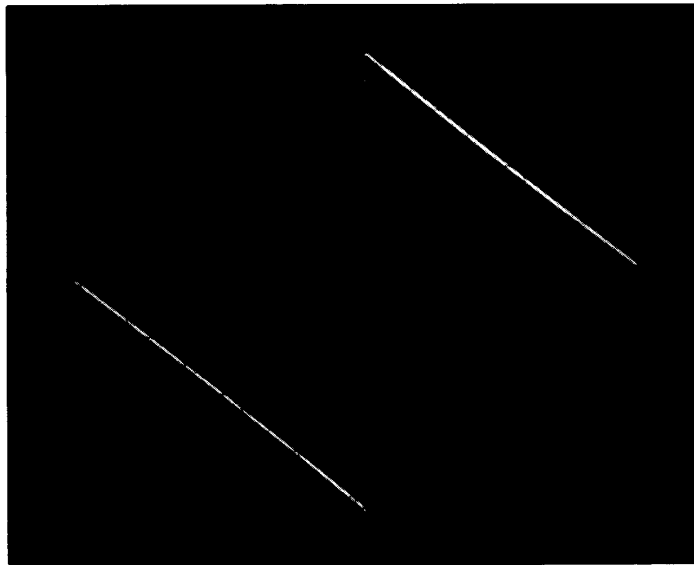

Figure 5-42. 180-Degree Phase Transition
- r. Connect rear panel SWEEP OUTPUT to A10TP5 SWP IN. Adjust A9R45 RECT OFS to center vertically the 180-degree phase transition on the CRT, as shown in Figure 5-42.